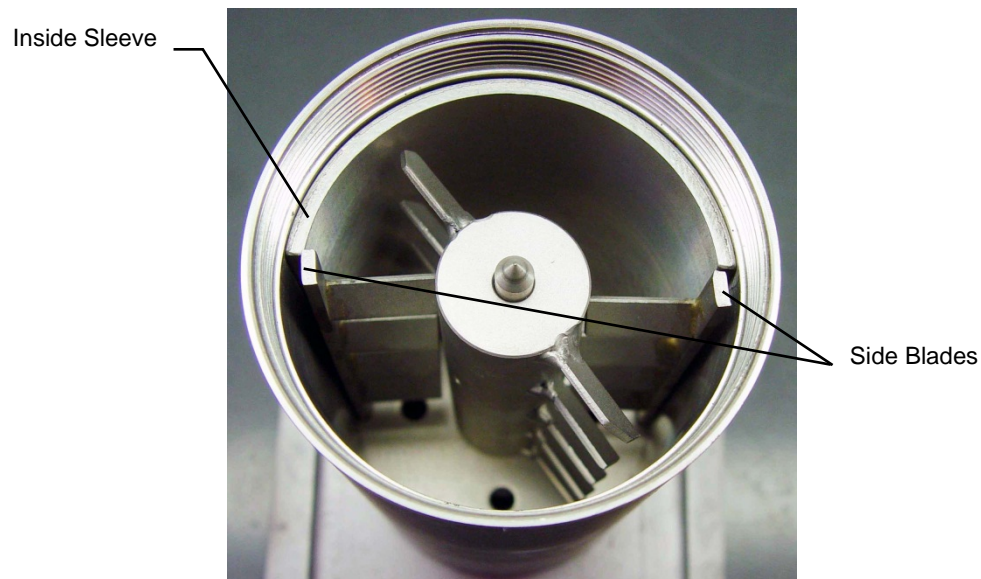

Figure 3-10 Two Side Blades Inserted into Notches and One Inside Sleeve in Place
8. Insert the two side blades into the notches in the top plate and one of the inside sleeves (Figure 3-10).